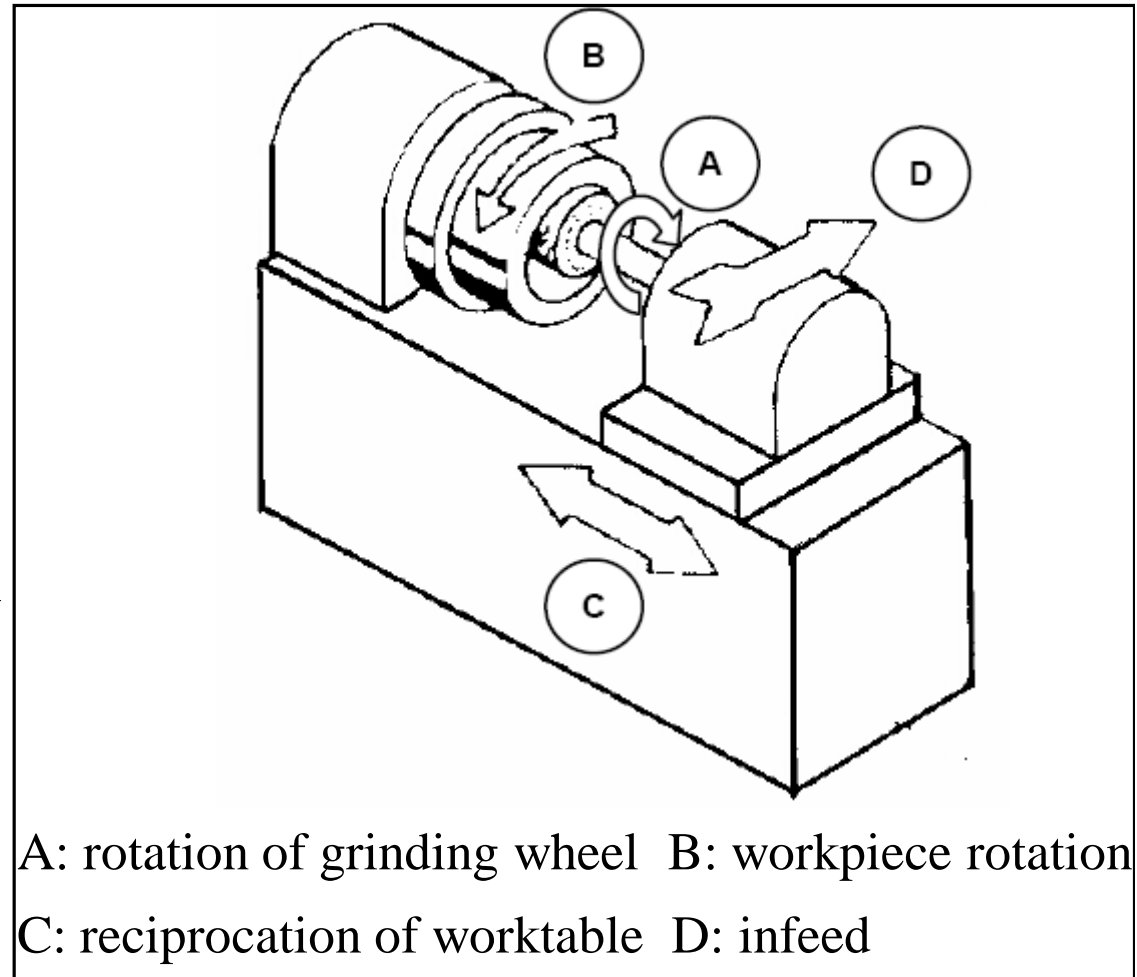

Fig. 10 Internal centerless grinder
- Figure.10 Illustrates schematically this machine and various motions required for grinding action. The workpiece is usually mounted in a chuck. A magnetic face plate can also be used. A small grinding wheel performs the necessary grinding with its peripheral surface.